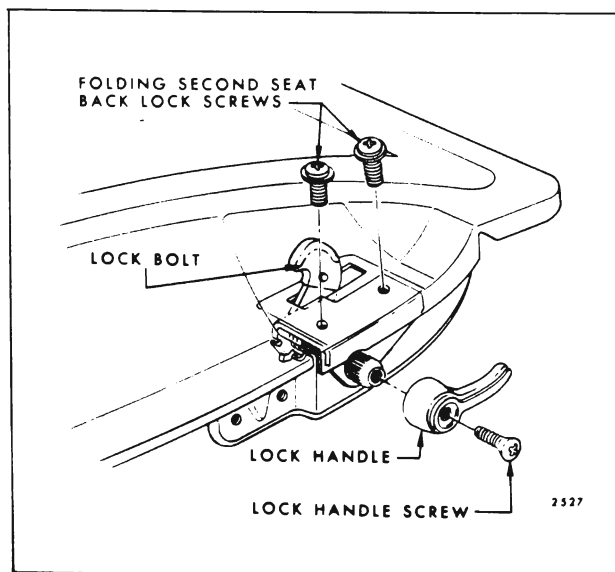

Fig. 15-65—Folding Second Seat Back Lock Installation
2. Remove seat back lock handle attaching screw (Fig. 15-65) and remove lock handle.
3. Remove seat back lock attaching screws (Fig. 15-65) and remove seat back lock from seat back panel.